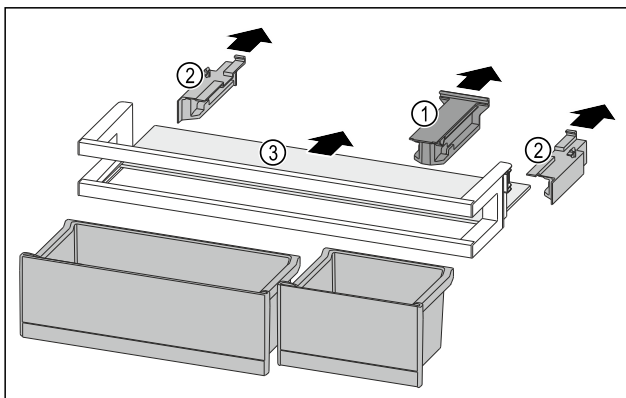

Fig. 133
- Pull off the retaining part Fig. 133 (1).
- Pull off the side part Fig. 133 (2).
- Remove the shelf Fig. 133 (3).